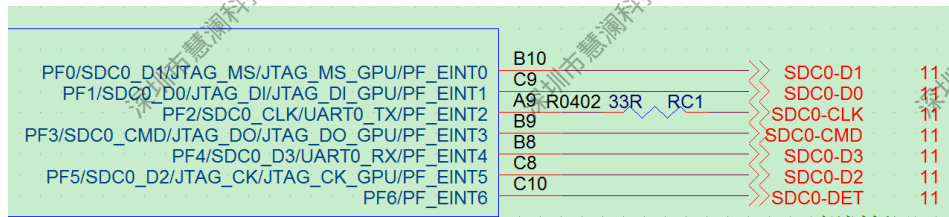

Figure 2-25 SDC0-CLK Series Resistor
- The CLOCK pin does not need a pull-up resistor and needs to connect to a 33 Ω resistor in series near the SoC end, as shown in Figure 2-25. If the capacitors are connected in parallel, the capacitance should not